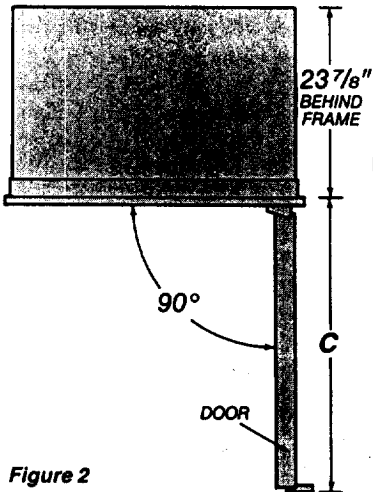

Figure 2
**IMPORTANT: For proper operation and use the door must open a minimum of 90°. A minimum 2" filler must be used in corner installations to assure a 90° door opening. Remember to allow enough clearance in front of unit for full door swing. Minimum door clearance listed in Figure 2.**